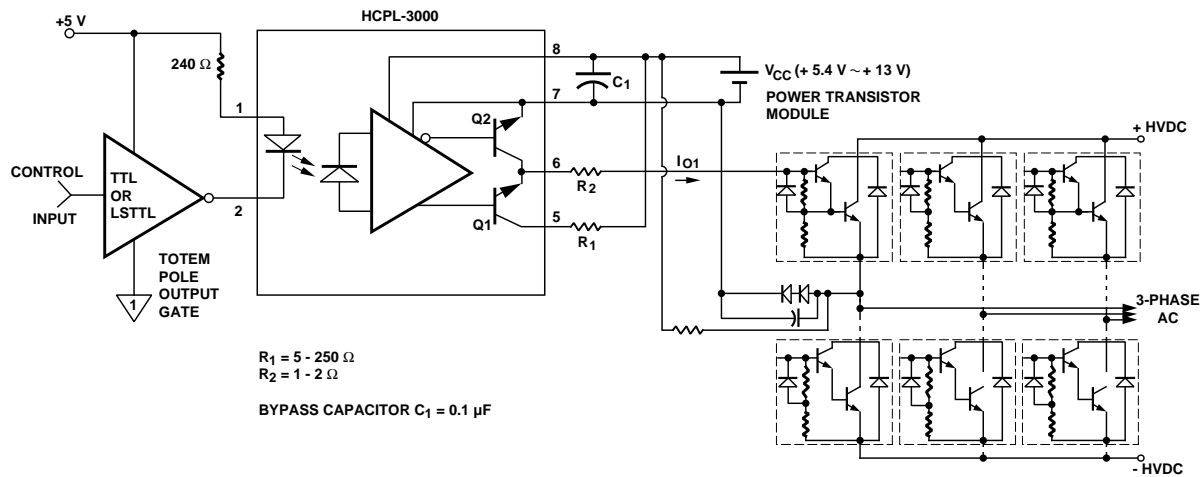

Figure 1. Recommended Output Transistor Protection and Typical Application Circuit.
THE USE OF A 0.1 μ F BYPASS CAPACITOR CONNECTED BETWEEN PINS 8 AND 7 IS RECOMMENDED. ALSO, CURRENT LIMITING RESISTORS ARE RECOMMENDED (SEE FIGURE 1, NOTE 2, AND NOTE 7).
amounts of current. Figure 1 describes a recommended circuit design showing current limiting resistors R_1 and R_2 which are necessary in order to prevent
- R_1 sets the base current (I_{O1} in Figure 1) supplied to the power bipolar device. R_2 limits the peak current seen by Q2 when the device is turning off. For more applications and circuit design information see Application Note "Power Transistor Gate/Base Drive Optocouplers."